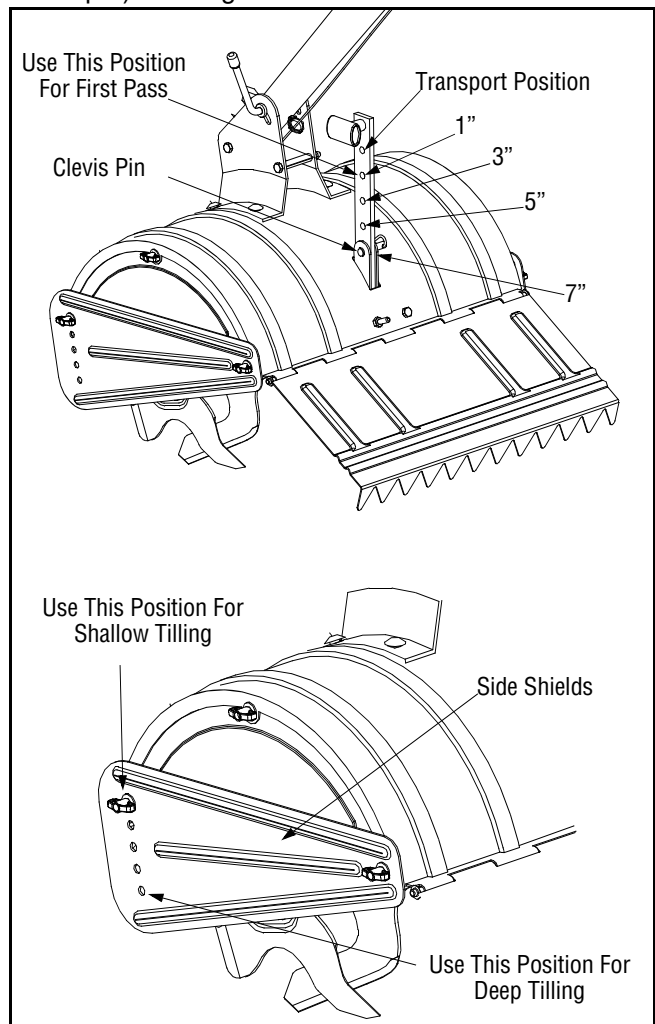

Figure 9
- When using the tiller for the first time, use the second adjustment hole from the top (1" of tilling depth). See Figure 9.
To adjust the depth stake, remove the clevis pin and hairpin clip. Move the depth stake to the desired setting and secure with the clevis pin and hairpin clip. See Figure 9.